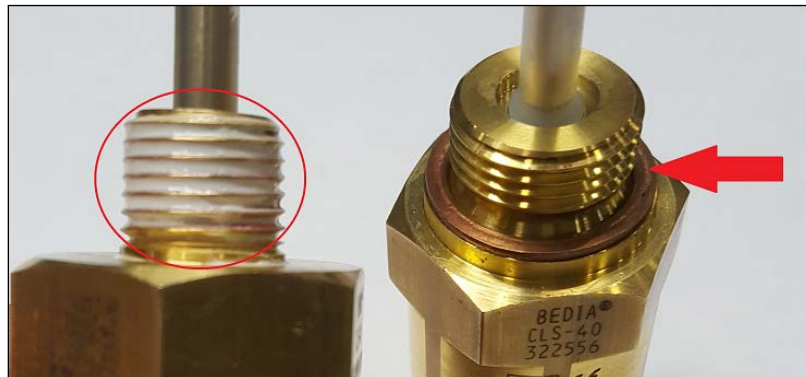

Figure 3
8. Thread and tighten the new sensor into the unit (See Figure 3). If using XS00A200.00003, be sure to use supplied copper washer. All other sensors require a coolant compatible thread sealant. MTU Onsite Energy recommends using Loctite 567.